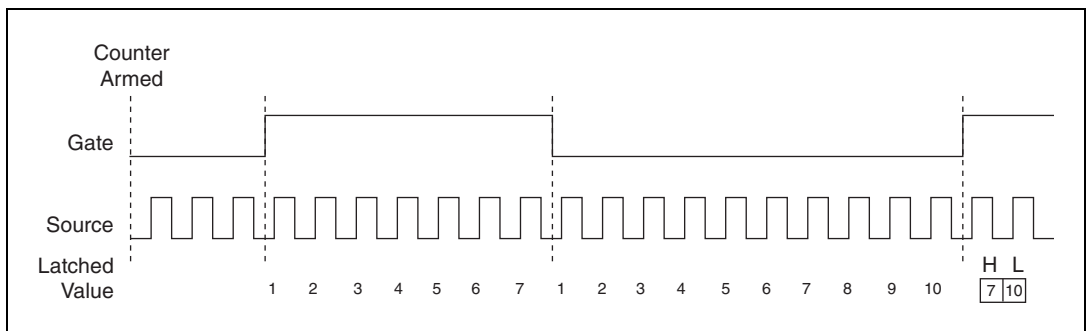

Figure 7-8. Single (On-Demand) Pulse Measurement
Single (on-demand) pulse measurement is equivalent to two single pulse-width measurements on the high (H) and low (L) ticks of a pulse, as shown in Figure 7-8.